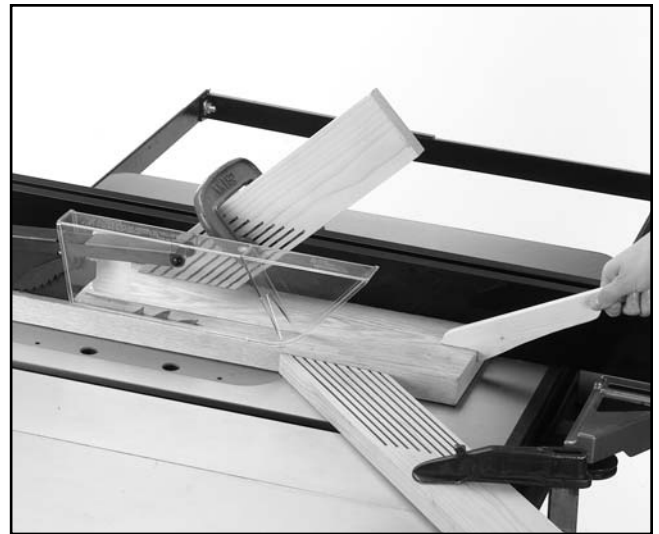

Figure 51. Ripping operation.
8. Using a push stick, feed the workpiece through the saw blade as shown in **Figure 51**, until the workpiece is completely past the saw blade. *When a small width is to be ripped and a push stick cannot be safely put between the blade and rip fence, rip a larger piece to obtain the desired piece.*